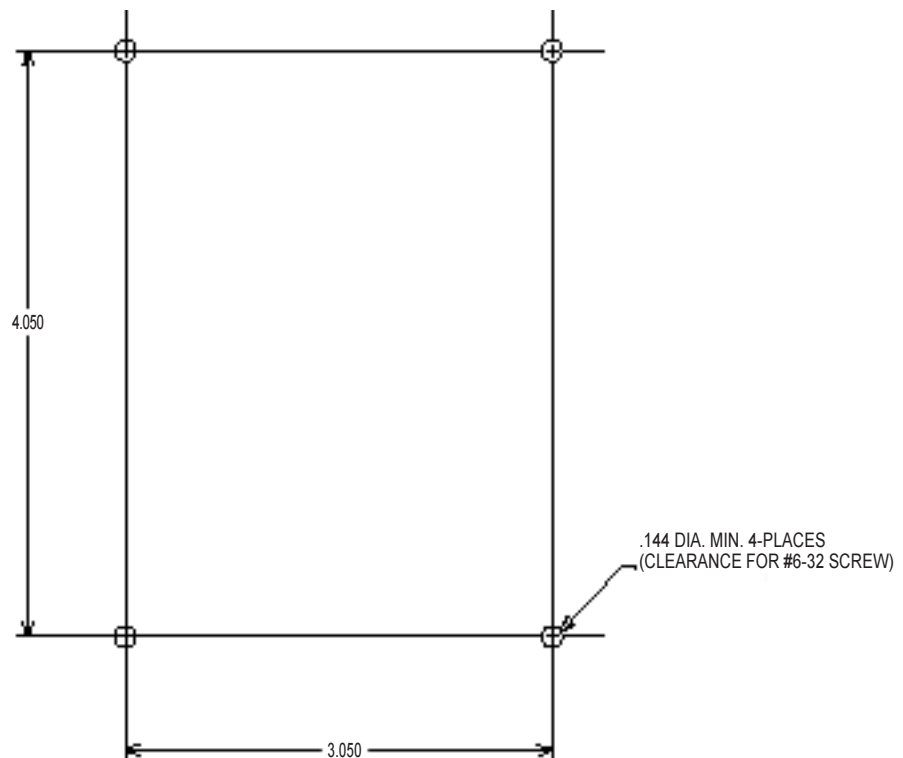

Figure A4 - Mounting hole pattern for fastening directly to the **DATAFLOW RTU** case
- 14.1.1 You can use the holes in the back of the enclosure to mount the **DATAFLOW RTU** directly to a surface, using the recommended hole pattern shown in Figure A4. The four thread-forming screws can be used to secure the case to the surface, if desired, by removing the screws and reusing them. Alternately, four #6 - 32 machine screws may be used; ensure they do not extend more than 5/16" into the case.